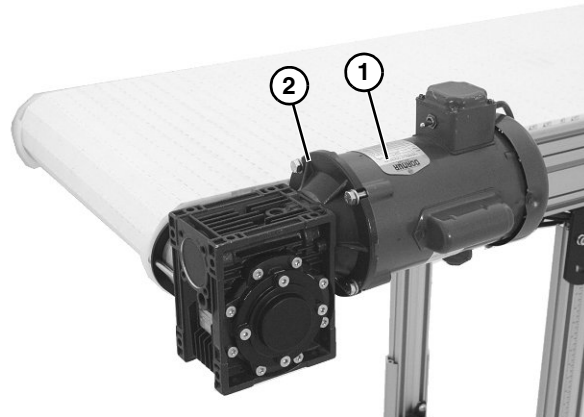

Figure 16
1. Attach the motor (**Figure 16, item 1**) to the gear reducer (**Figure 16, item 2**).